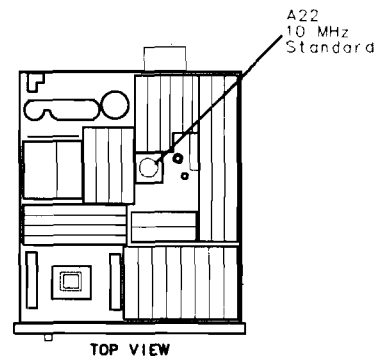

Figure 3-55. Location of 10 MHz Standard Adjustments
14. Use a nonconductive adjustment tool to adjust the 18-turn FREQ ADJ capacitor on the A22A2 10 MHz Quartz Crystal Oscillator for a Frequency Counter indication of 0.00 Hz. Refer to Figure 3-55 for the location of the A22A2 10 MHz Quartz Crystal Oscillator.